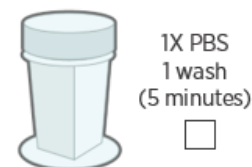

Figure 45: Wash in 1X PBS for 5 minutes
9. After nuclear stain incubation, **remove slides one at a time** from staining tray, gently tap slide on a clean Kimwipe to remove excess buffer, and transfer slide to 1X PBS (Figure 45).